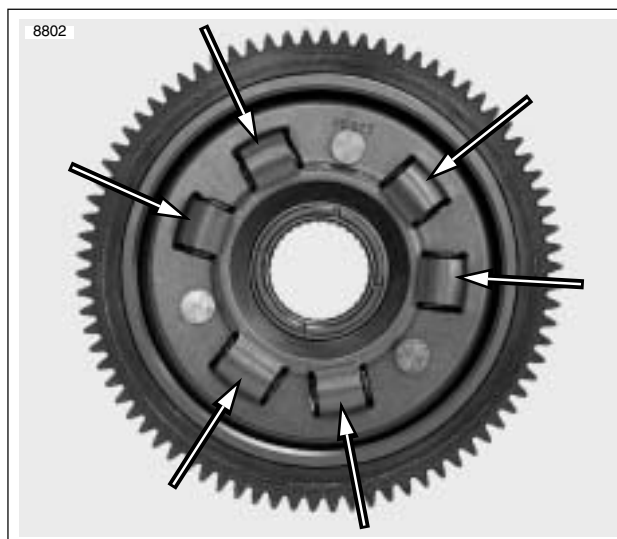

Figure 6-26. Compensating Spring Set
8. See Figure 6-26. Inspect the clutch shell compensating spring set.